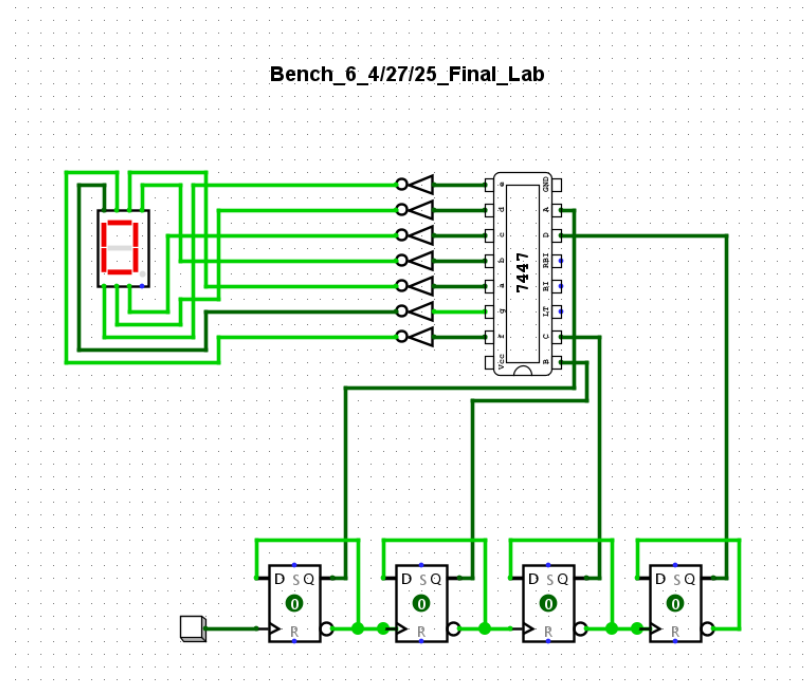

Figure 1: Gate Level D-Flipflop 4-Bit Counter
3. The completed gate level 4-bit counter should appear similar to Figure 1.